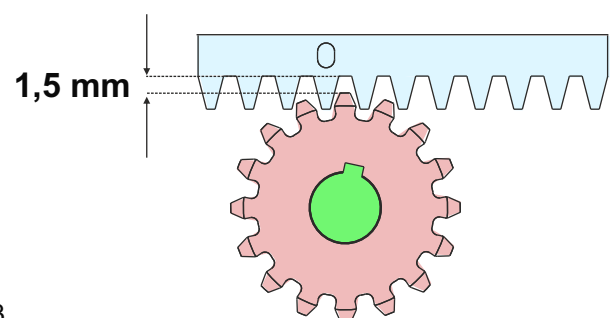

Fig. 13
- 5.6. To avoid that the gate weights down the pinion - Fig.13 - lift up the whole rack about 1,5 mm.